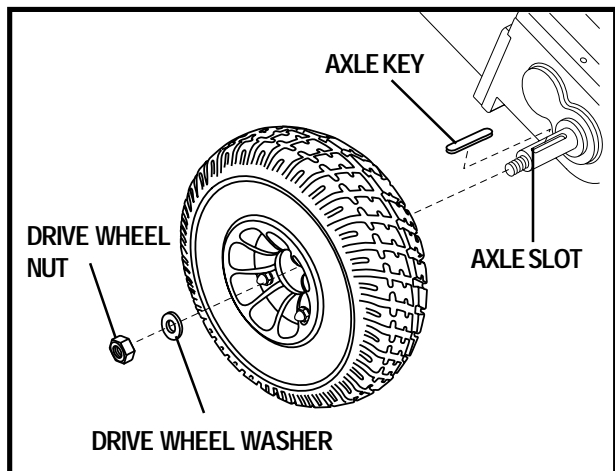

Figure 33. Drive Wheel
4. Remove the drive wheel nut and washer from the axle. See figure 33.